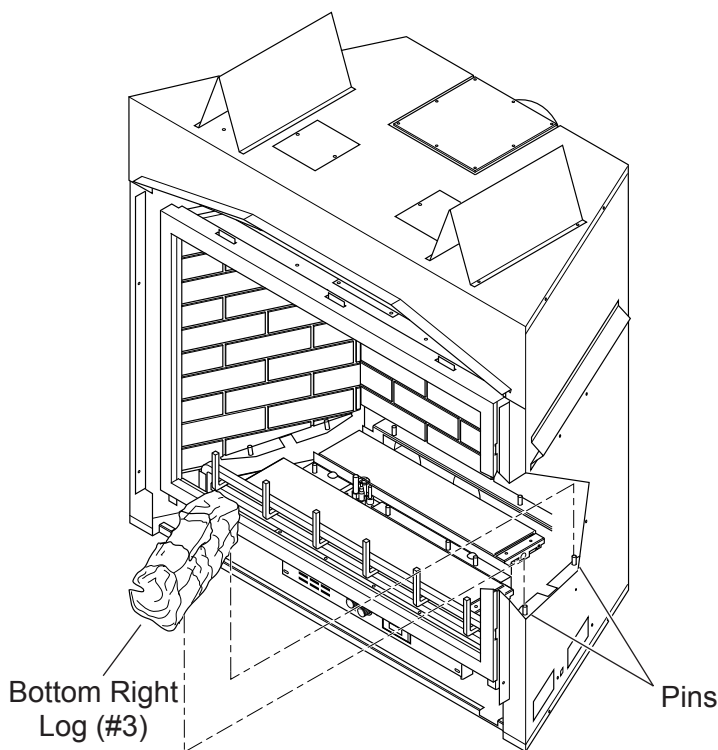

Figure 42 - Installing Bottom Right Log (#3)
3. Place bottom right log (#3) on two pins against right side of firebox. See *Figure 42*.